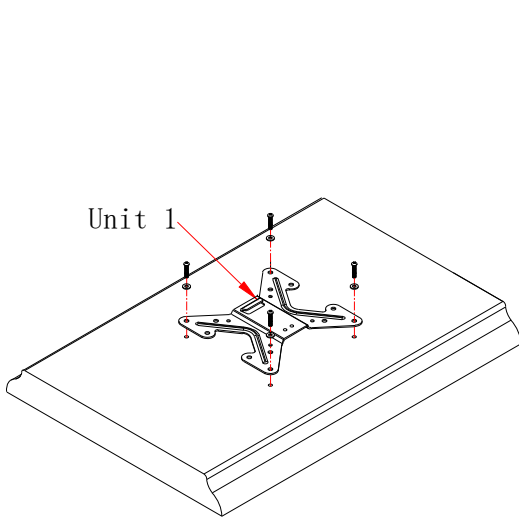

figure 6
Unit 1 Lay TV face down,choose the suitable hware and fix (D) to the back of TV .Please keep the TV level(figure 6).